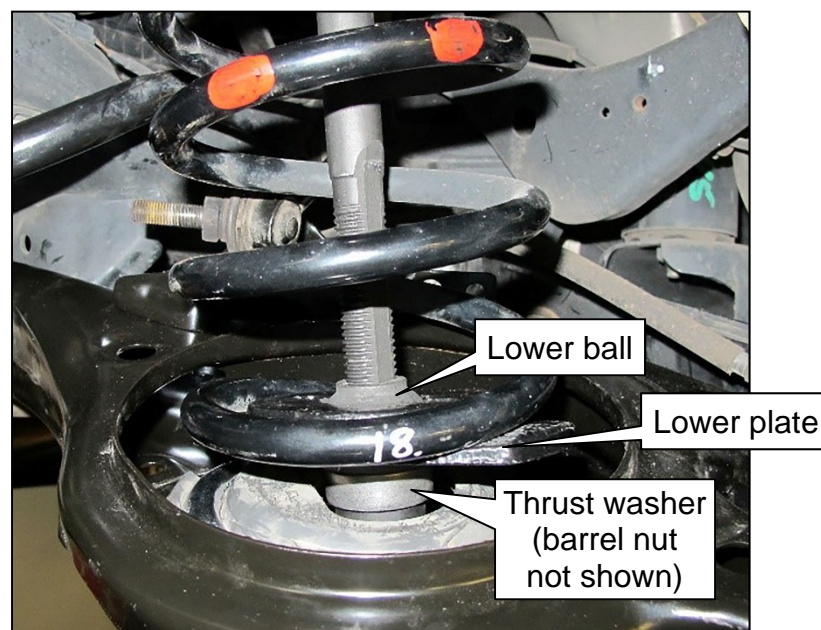

Figure 10
11. Thread the barrel nut up the threaded rod until the thrust washer makes contact with the lower ball (see Figure 10).